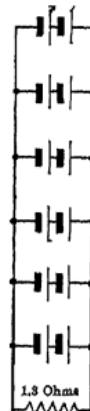

FIG. 123. Six parallel rows of 2 cells in series.
(5) Six parallel rows of 2 cells in series: Fig. 123.